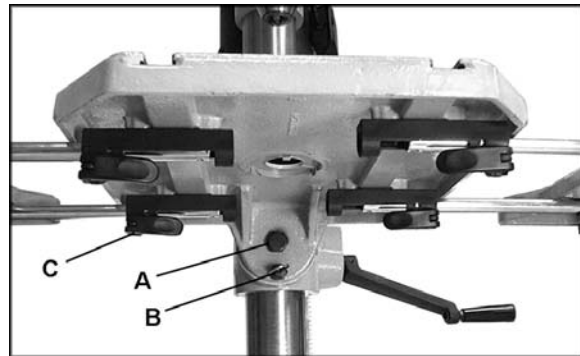

Figure 16
Referring to Figures 16 and 17:
3. Re-tighten bolt (A, Figure 16).
Loosen the handles (C, Figure 16) and slide the extensions outward, then re-tighten the handles.